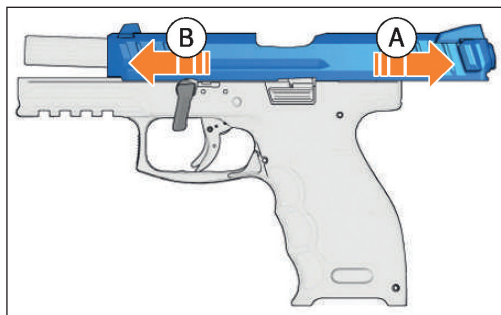

Figure 19 – Removing slide from frame by pushing it forward
3. Depress the slide release and push the slide forward, removing the slide from the top of the frame (see Figure 19).